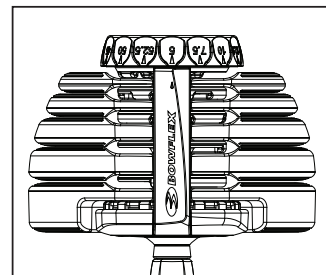

Figure 1
3. The weight increments range from 5 to 52.5 lbs (2.27 kg to 23.9 kg) on both adjustment knobs. To properly select a given weight (20 lbs [9 kg] for example), rotate both adjustment knobs until that number (20) is aligned with the arrow located on the outward edge of the Bowflex® nameplate (Fig.1).